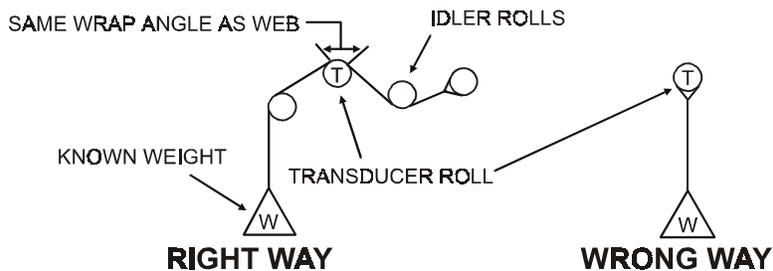

Figure 15 - WEB PATH FOR CALIBRATION
A. USING STANDARD TRANSDUCER CONNECTION (see Figure 15)